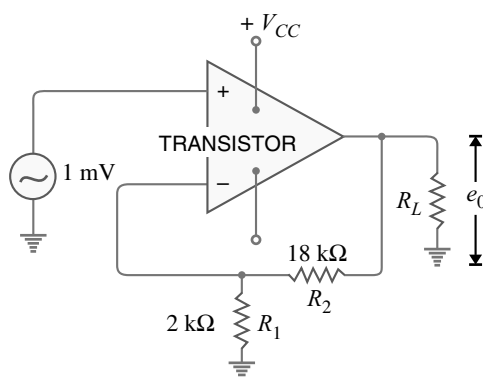

Fig. 11.15
**Example 11.13.** Fig. 11.15 shows the negative voltage feedback amplifier. If the gain of the amplifier without feedback is 10,000, find :